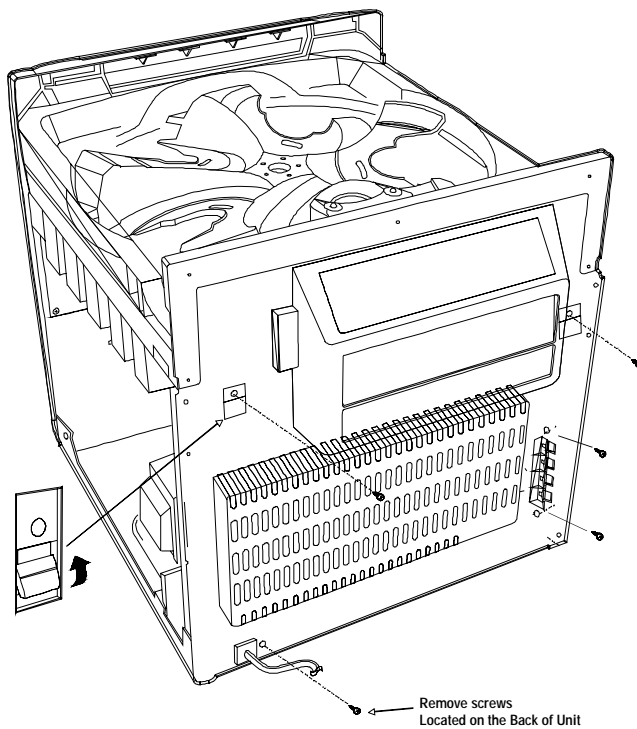

Fig. 2
2. Remove thirteen (13) screws from the back of unit as shown in Figure 2.
3. Lift CD tray to release tabs on back panel as shown in Figure 2.